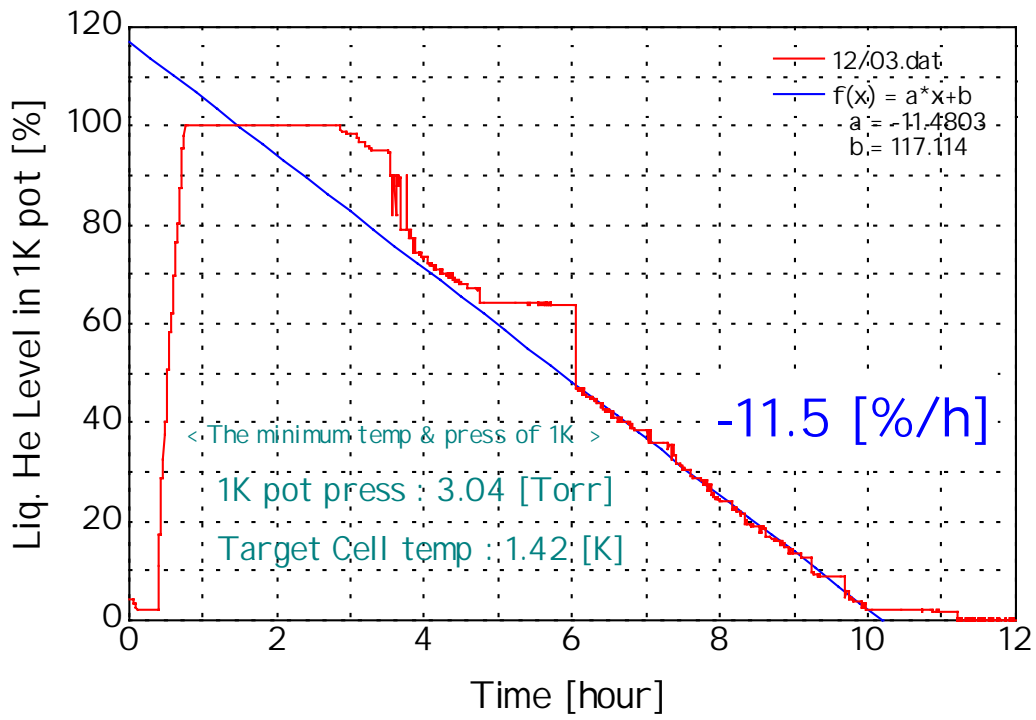

Fig. 6. Result of 1st He consumption test
- Result of He consumption is shown in the Fig. 6, 7
1st test (Fig. 6) : **-11.5 [%/h]**